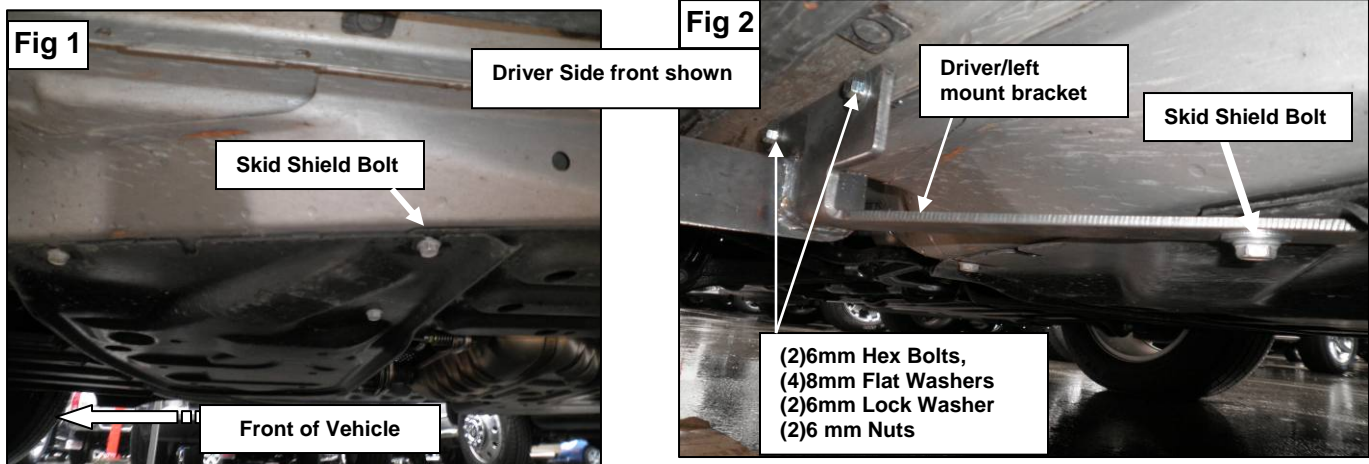
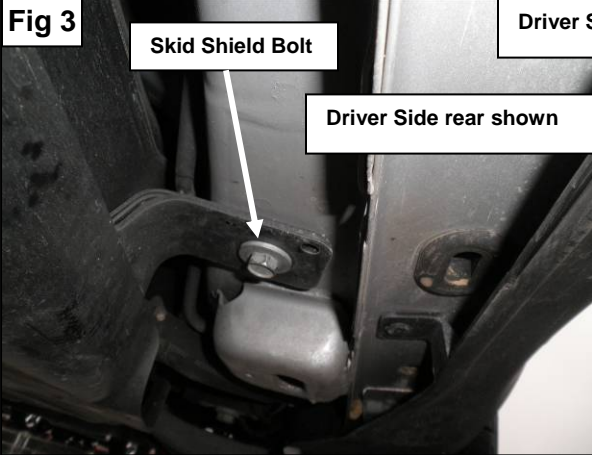
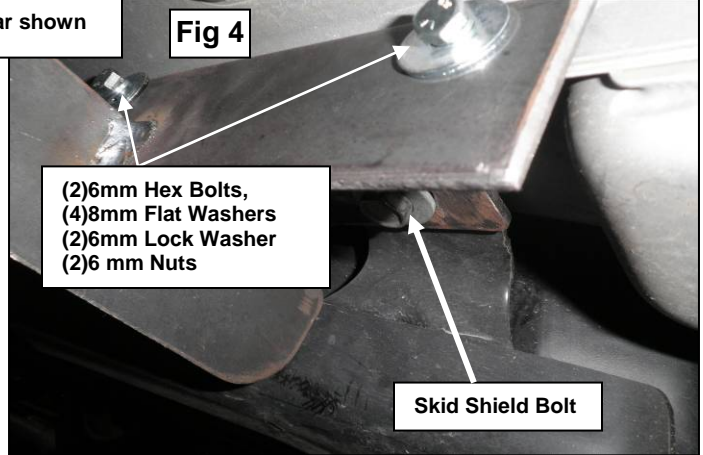
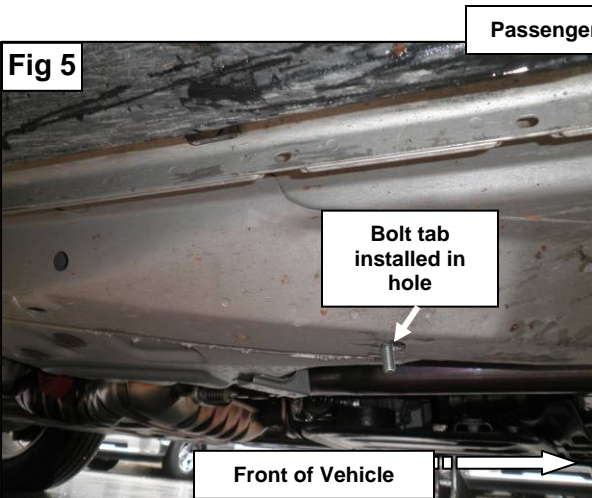

Fig 3
Fig 4
Fig 5
Fig 6
3. Locate and remove the rear skid shield bolt as seen in **(Fig 3)**. With bolt removed install the Driver/left side bracket as seen in **(Fig 4)** to the bottom of the rocker panel drip rail with the (2) 6mm hex bolts, (4) 8mm flat washers, (2) 6mm lock washers and (2) 6mm Nuts re-attach skid shield bolt. Snug but do not tighten at this time.
4. Position Driver/left Side Bar onto Mounting Brackets. Attach Side Bar to Mounting Brackets using the included (4) 10mm x 30mm Hex Head Bolts, (4) 10mm Lock Washers, and (4) 10mm Flat Washers. Level and adjust Side Bar, then tighten all hardware at this time.
5. For the Passenger/right side front mount bracket, locate and install the bolt tab into the bottom of the frame rail as seen in **(Fig 5)**. With bolt tab installed mount the bracket as seen in **(Fig 6)** to the bottom of the rocker panel drip rail with the (2) 6mm hex bolts, (4) 8mm flat washers, (2) 6mm lock washers and (2) 6mm Nuts Attach the (1) 10mm flat washer (1) 10mm lock washer and (1) 10mm Nut to the bolt tab. Snug but do not tighten at this time.